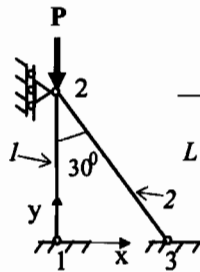

Fig. 2a
- For the truss under load P (Fig. 2a) calculate:
- Write the ANSYS *prep* code (complete info on type of elements, material, geometry, boundary conditions, and loads should be included) that models the truss in Fig. 2a.